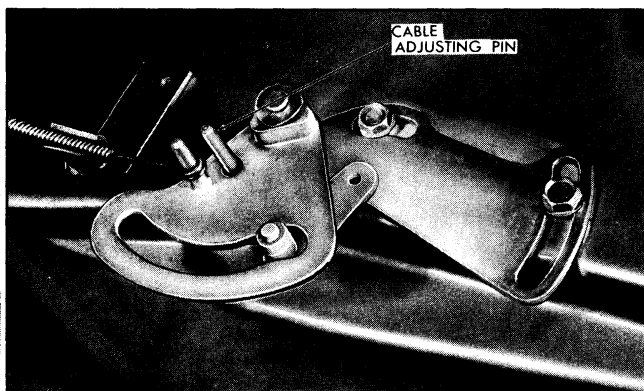

Fig. 12-3 Temperature Control Cable
2. Turn temperature control knob to full clockwise (ON) position.
5. Turn temperature knob to full counter-clockwise position (OFF) and insert dowel pin through heater cam into cam bracket (Fig. 12-3).